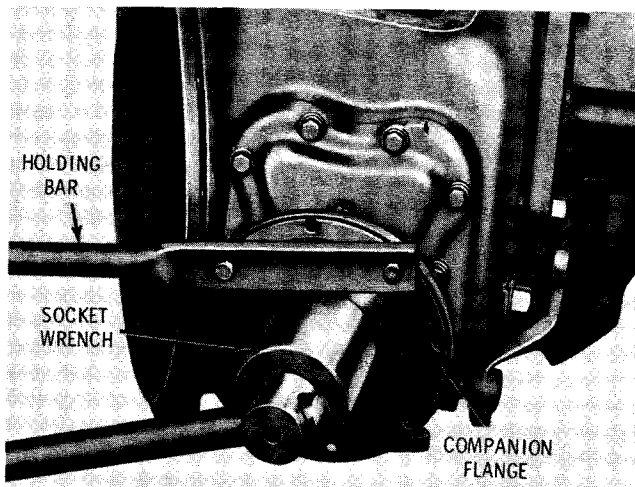

Fig. 5-35. Removing (or installing) flange nut
(1) Remove cotter pin 1 (A, foldout 11) from nut 2.
(2) Hold the flange with a holding bar (fig. 5-35). Using a 2 1/2-inch socket wrench, remove the flange retaining nut. Remove companion flange (fig. 5-36) and speedometer-governor drive gear as an assembly.